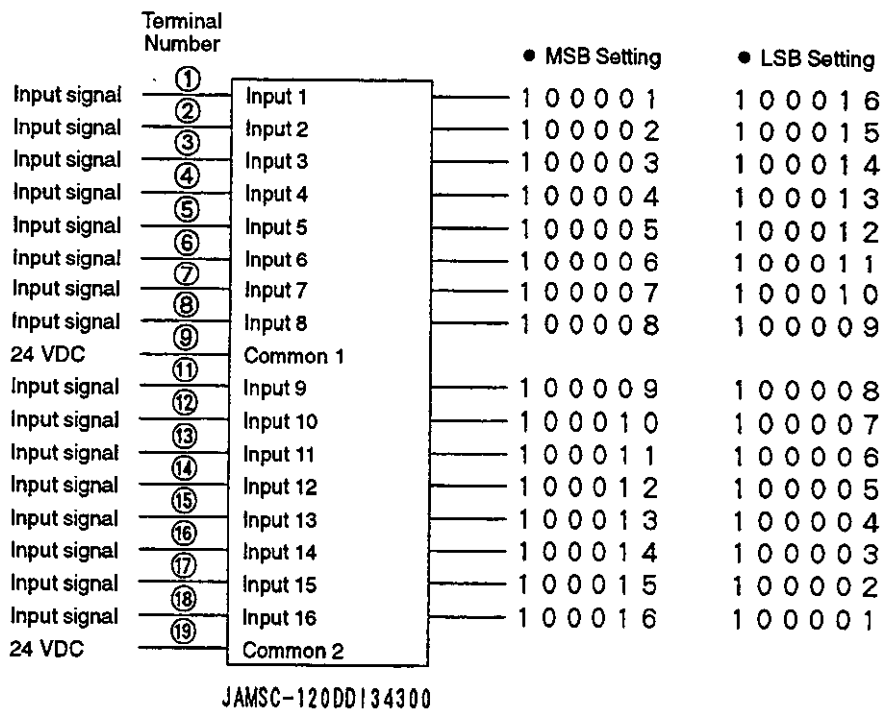
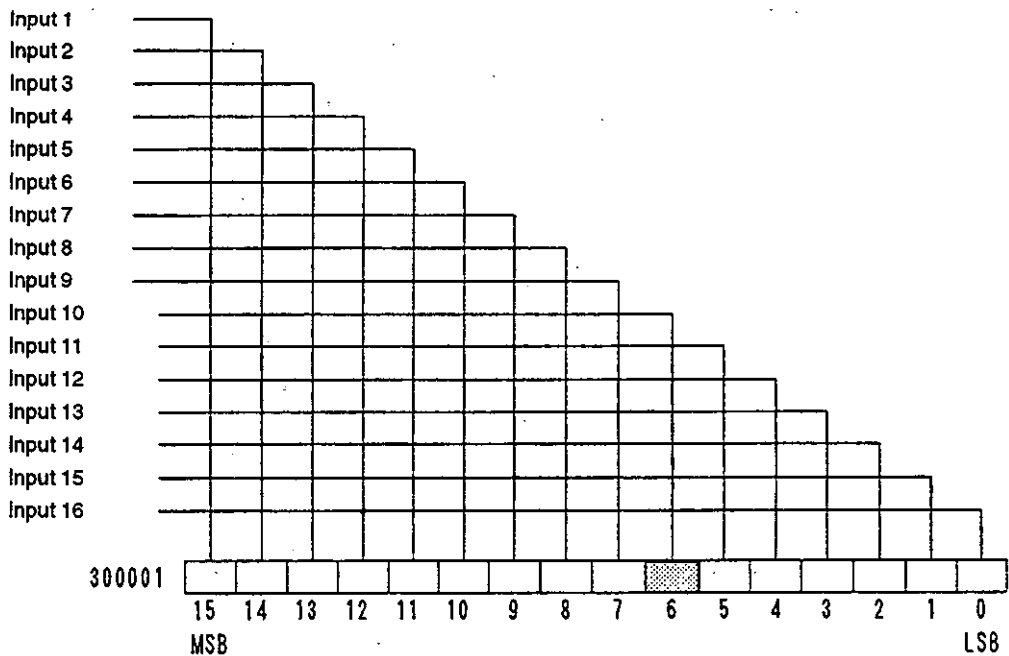

Figure 3.4 I/O Reference Allocation Example
Figure 3.5 Input Register Allocation (LSB Setting) for Digital Input Module
- 1) To allocate I/O references, the beginning number of the I/O references to be used by an I/O Module is designated. For example, as shown in *Figure 3.4*, if input relay 100001 is designated as the beginning number for a 24-VDC, 16-point Input Module (JAMSC-120DDI34300), the input references will be allocated in order beginning with the Module's leading input. That is, 100001 will be allocated to input signal 1, 100002 to input signal 2, and so on. This method is used for the "MSB" (most significant bit) setting.
3) Registers can also be allocated to I/O references for digital-type I/O Modules. If, for example, 300001 rather than 100001 was allocated as the beginning number for the I/O Module in Figure 3.4, the ON/OFF data for inputs 1 through 16 would be entered in 300001 as shown in Figure 3.5. This is the LSB setting method. The turning ON and OFF of input signals is expressed by the respective "1" or "0" status of individual bits in 300001. For example, the status of bit number 6 indicates the ON/OFF status of input 10. If the bit order were reversed, then the MSB setting would be used.